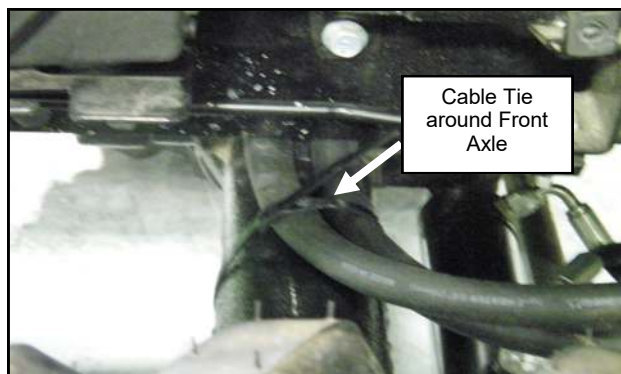

Fig. 18.11 (Secure Hoses)
18.11 Secure the hoses to the front axle to the left of the engine with a long cable tie. See Figure 18.11